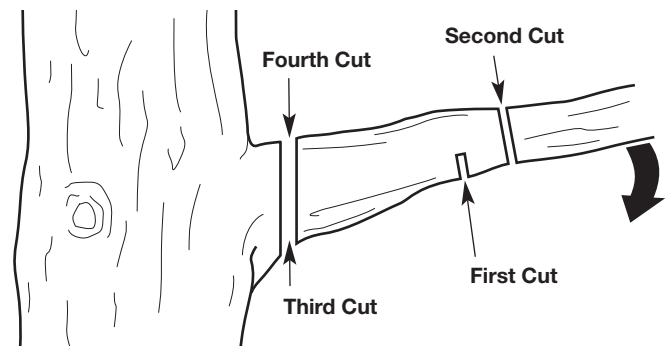

Fig. 24
1. Make the first cut approximately 6 inches (15 cm) from the tree trunk. Cut upward, from the underside of the limb. Use the top of the guide bar to make this cut. Cut a third of the way through the diameter of the limb (Fig. 24).
2. Make the second cut 2 - 4 inches (5 - 10 cm) farther out on the limb. Cut downward, from the top of the limb. Use the bottom of the guide bar to make this cut. Cut completely through the limb (Fig. 24).
3. Make the third cut as close to the tree trunk as possible. Cut upward, from the underside of the limb stub. Use the top of the guide bar to make this cut. Cut a third of the way through the diameter of the limb (Fig. 24).
4. Make the fourth cut directly above the third cut. Cut downward, from the top of the limb stub. Use the bottom of the guide bar to make this cut. Cut completely through the limb stub to meet the third cut (Fig. 24). This will remove the limb stub.